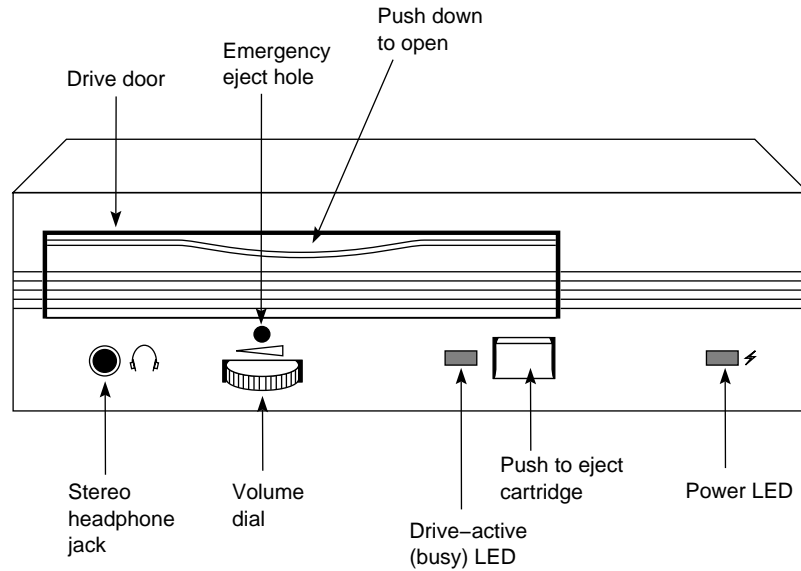

Figure 4-10 CD-ROM Drive Front Panel Controls
7. Slide the caddy into the CD-ROM drive; see Figure 4-10 for the location of the drive door.